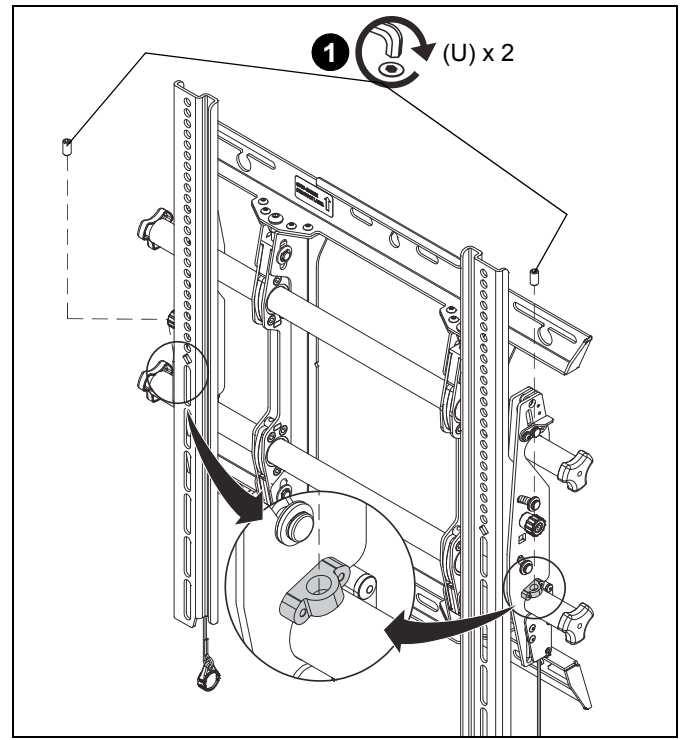

Figure 14
1. Lock interface brackets onto mount rails using one 3/8-16 x 3/4" set screw (U) on each interface bracket. (See Figure 14)